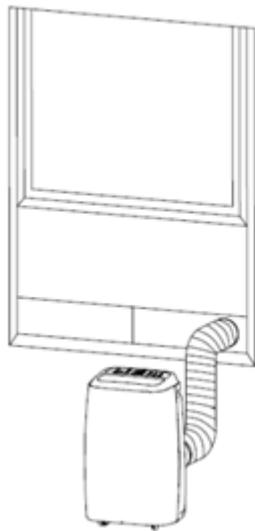

Fig 5c
- 4) If using the supplied window kit Fig.5c and Fig 5d place the window kit slide plate either horizontally or vertically in the window aperture, attach exhaust hose window end connector to the window kit slide plate and adjust the window position.